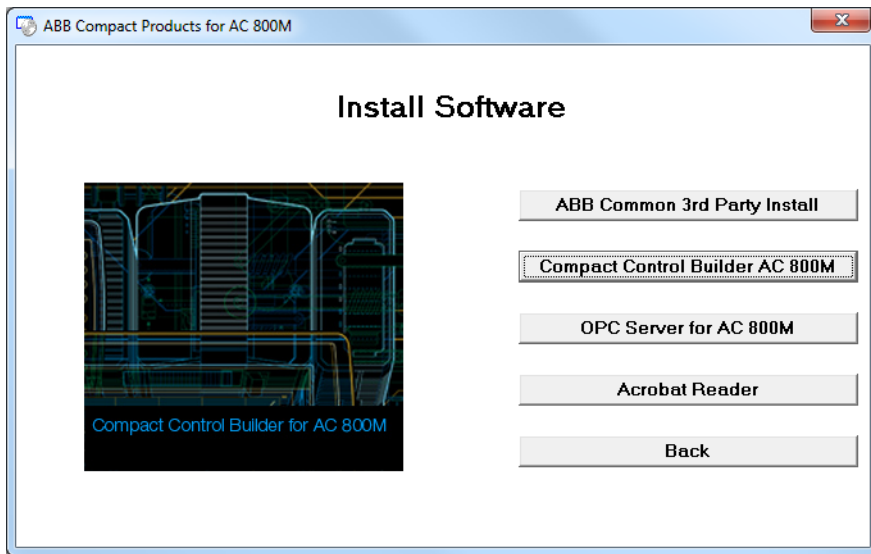

*Figure 5. The Welcome dialog of the installation process*
2. Insert the DVD into the drive. After a few seconds the Welcome dialog appears as shown in Figure 5. If the dialog does not appear, start the file *Startme.bat*, located in the root directory of the DVD.